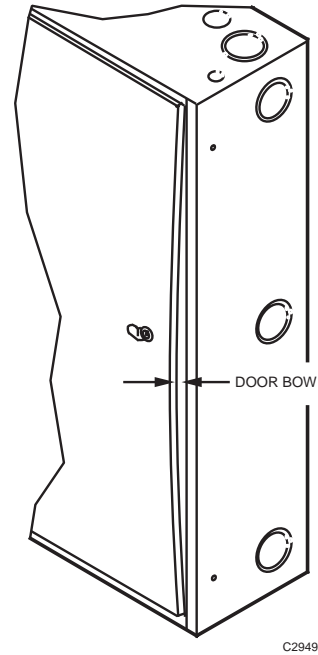

Fig. 13. Adjust for bow in door (full-size Ring and door shown).
2. Line up inside corners of Door, both top and bottom, with front surface of Ring (see Fig. 13) to eliminate door rattle and add a little spring for opening.